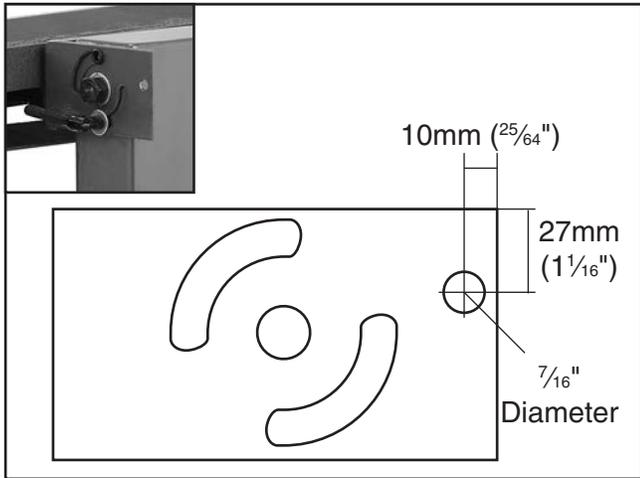

Figure 3. Rotation plate mounting hole.
- Use a center punch to mark the installation holes shown in **Figures 3 & 4**.